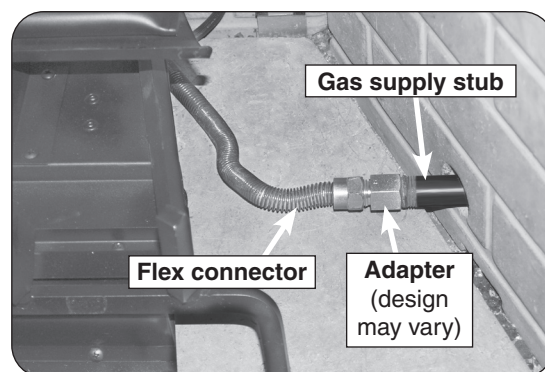

Fig. 8-2 Connect flex to gas supply
2. Locate the gas-supply stub inside the fireplace and remove the cap, if attached (reference Fig. 8-2).
4. Place the burner system in the fireplace. Center the burner from left to right in the fireplace. (Reference Fig. 8-2 for orientation.)
5. **Be sure gas to the fireplace is off.** Remove the large adapter connected to the flex connector. Attach the adapter to the gas-supply stub using a pipe compound resistant to all gasses. Tighten securely. Then attach the flex connector to the adapter. Tighten securely (See Fig. 8-2).